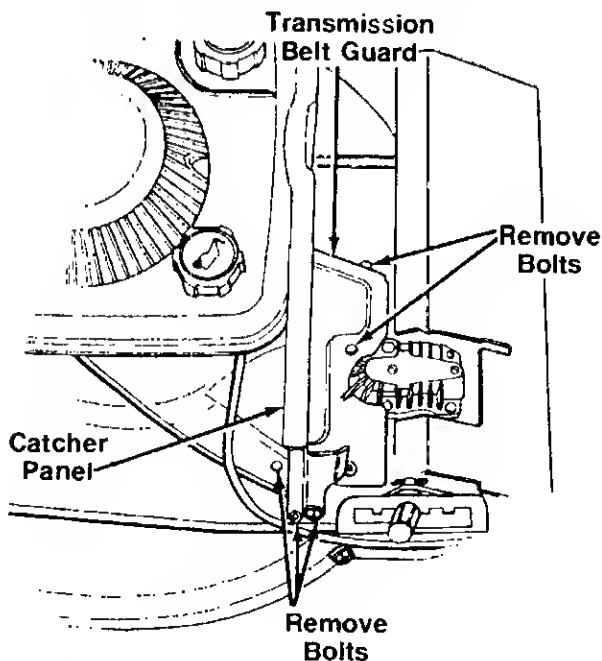

FIGURE 21.
3. Remove the transmission belt guard as follows. See figure 21.